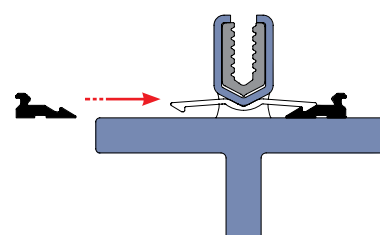

fig. 1: Perfect protection against corrosion
- Perfect protection against corrosion due to a 3 mm safety distance between structural profile and system base profile, thus no metal components in direct contact with each other (see fig. 1)